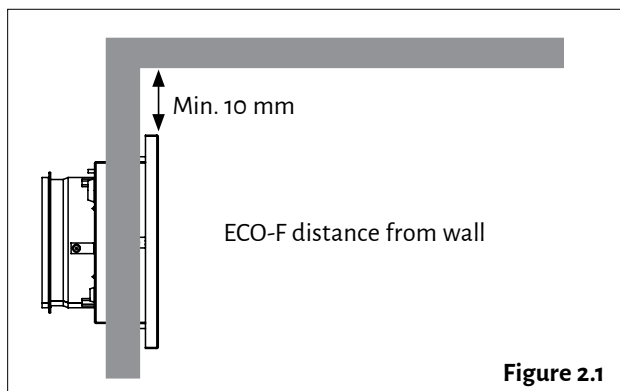

Figure 2.1
2. The minimum distance of the terminal device from the ceiling is 100 mm (see Figure 2.1). Install the terminal device at a minimum height of 1.8 m. Ensure that children cannot get their hands on the device.
3. Detach the grille (2) from the body. Remove the two fastening screws (3) and pull the grille off the body (1).
4. Insert the bottom section duct connector into the inlet air duct, and attach the body to the wall (4) with screws (4 pcs, max Ø 5 mm).